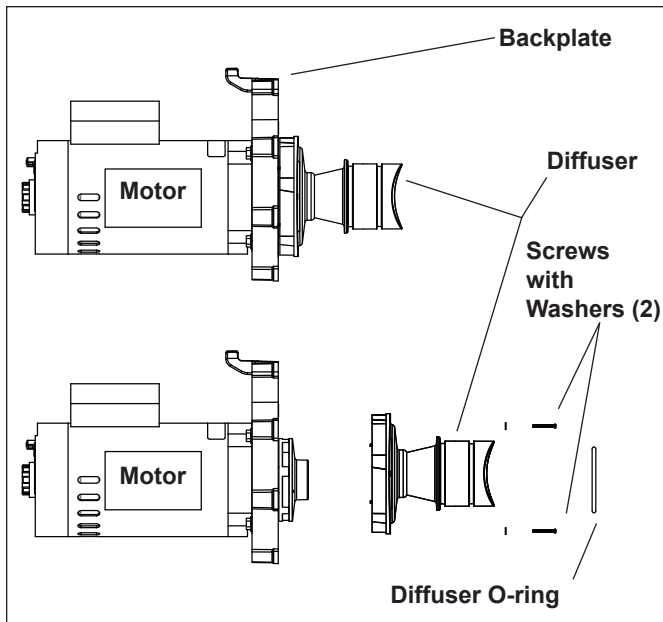

Figure 4. Remove the Diffuser
5. Using a No. 1 Phillips screwdriver, remove the two (2) screws holding the diffuser. (The diffuser is the cover over the impeller). Then remove the diffuser. (See Figure 4.)